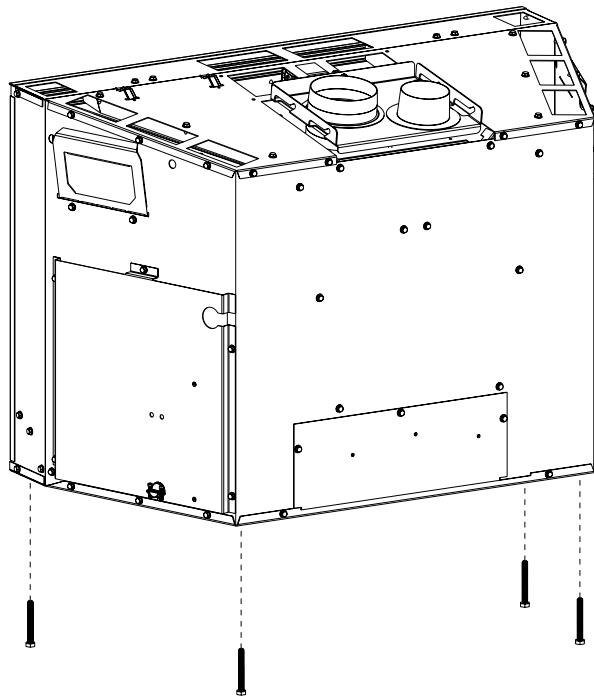

Figure 11
Figure 11 shows the vent termination cap and system approved for use with these models. Approved vent system terminations are labeled for identification. Use 3-inch diameter, flexible aluminum or stainless steel gas venting for the incoming combustion air. Use 4-inch diameter flexible aluminum or stainless steel gas venting for exhaust vent pipe. **No other venting systems or components may be used.** Detailed installation instructions are included with each vent termination kit and should be installed in conjunction with this manual.
NOTICE: The minimum vertical vent rise is 10 feet and the maximum vertical vent rise is 40 feet. These dimensions are measured from the starting collars of the unit to the end of the last section of vent pipe. **See Figure 11, page 17.**
7. Install leveling legs. **See Figure 11.**